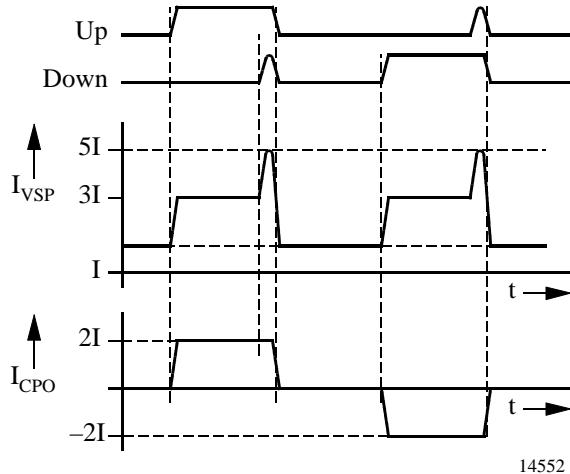
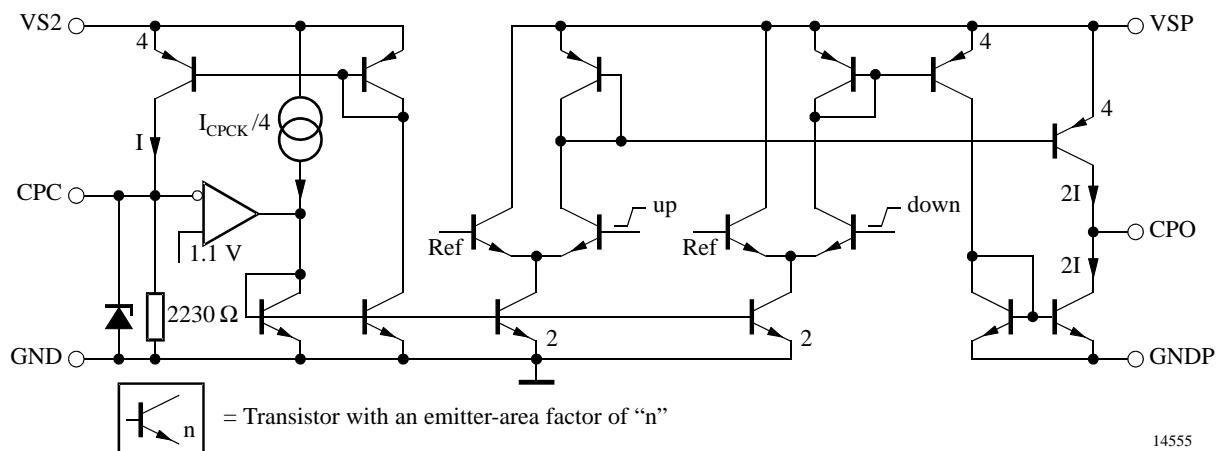

Figure 3. Supply current of the charge pump = f(t)
Figure 7. Charge pump
1) Mean value, measured with F_{ND} = 151 MHz, F_{RD} = 150 MHz, current vs. time, figure 3.
8) See figure 7
Due to the pulsed operation of the charge pump, the current into the charge-pump supply Pin V_{SP} is not constant. Depending on I (see figure 7) and the phase difference at the phase detector inputs, the current I_{VSP} over time varies. Basically, the total current is the sum of the quiescent current, the charge-/discharge current, and – after each phase comparison cycle – a current spike (see figure 3).